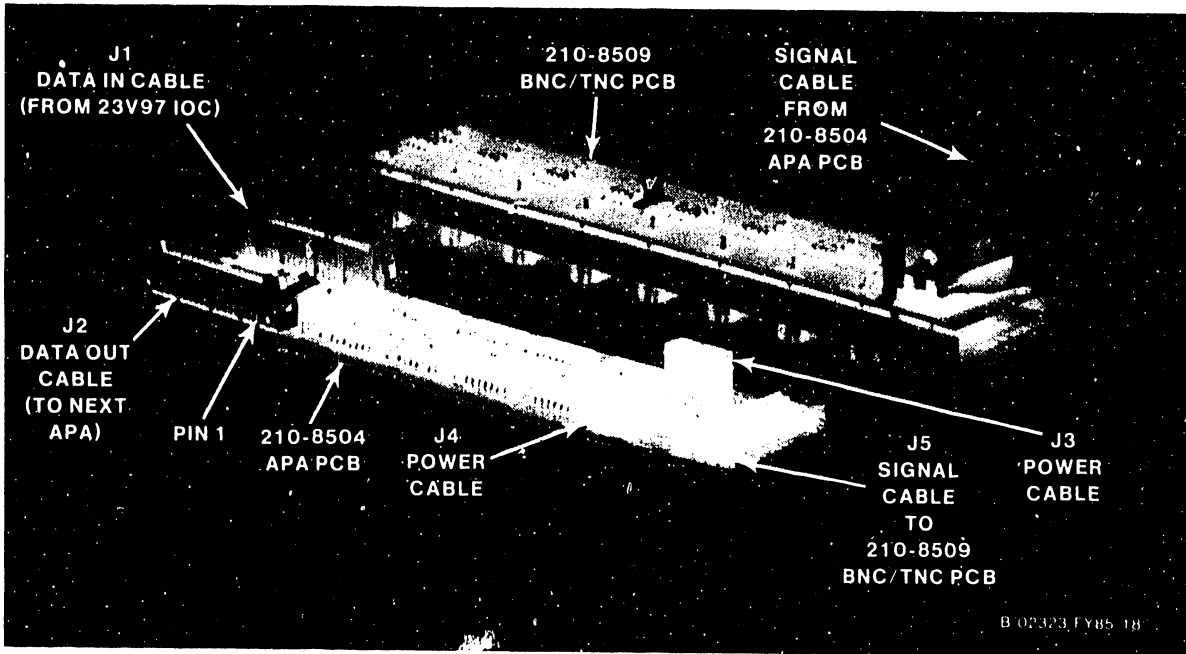
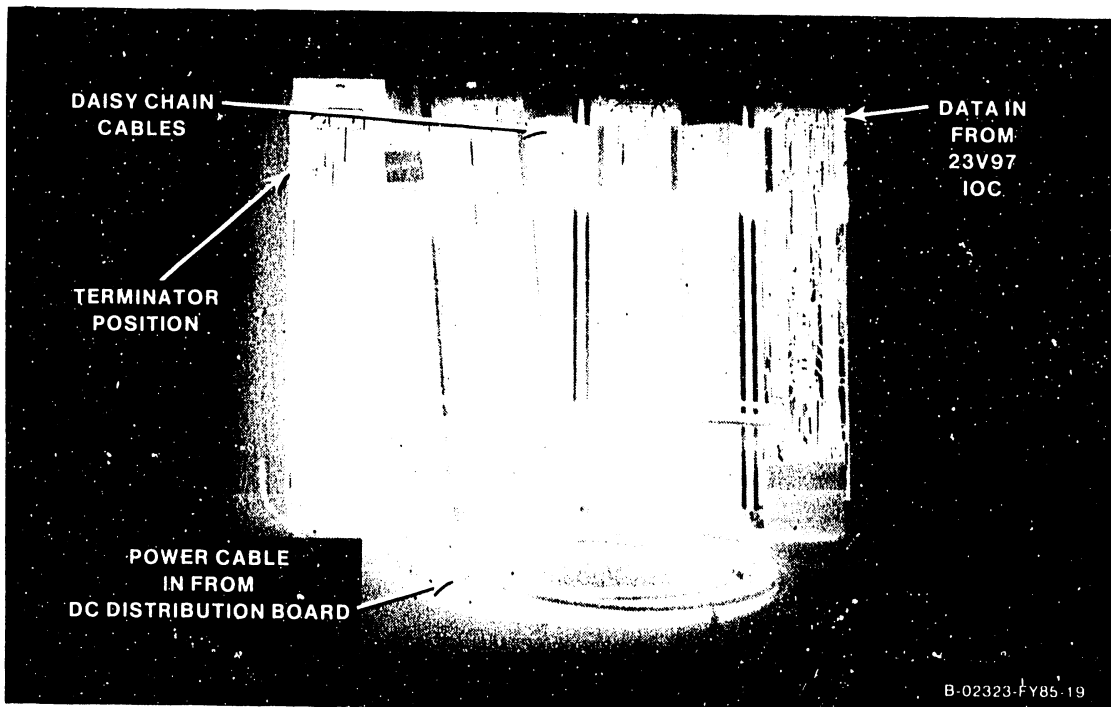

Figure 5-24. 270-0975 APA Assembly
Figure 5-25. Daisy Chained APA Assemblies
2. Figure 5-24 shows one assembly and figure 5-25 shows four assemblies daisy chained. The last APA must be terminated at J2 with a 210-8503 terminator board.